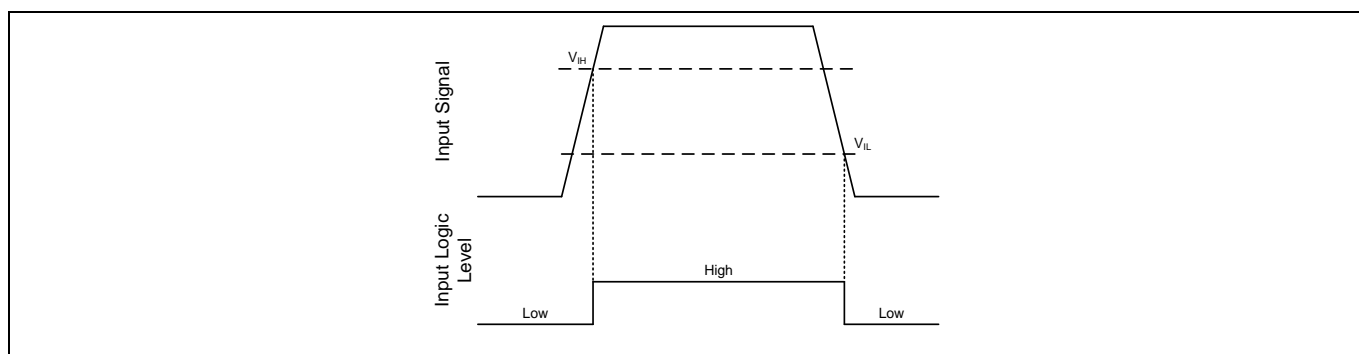

Figure 12 HIN & LIN input thresholds
The input pins are based on a TTL and CMOS compatible input-threshold logic that is independent of the V_{CC} supply voltage. Figure 12 illustrates an input signal to the 2ED2108 (4) S06F (J), its input threshold values, and the logic state of the IC as a result of the input signal. The typical high threshold (V_{IH}) of 2.1 V and typical low threshold (V_{IL}) of 0.9 V. The input pins are conveniently driven with logic level PWM control signals derived from 3.3 V and 5 V digital power-controller devices. Wider hysteresis (typically 0.9 V) offers enhanced noise immunity compared to traditional TTL logic implementations, where the hysteresis is typically less than 0.5 V. 2ED2108 (4) S06F (J) also features tight control of the input pin threshold voltage levels which eases system design considerations and ensures stable operation across temperature. The 2ED2108 (4) S06F (J) has input pins that are capable of sustaining voltages higher than the bias voltage applied on the V_{CC} pin of the device.